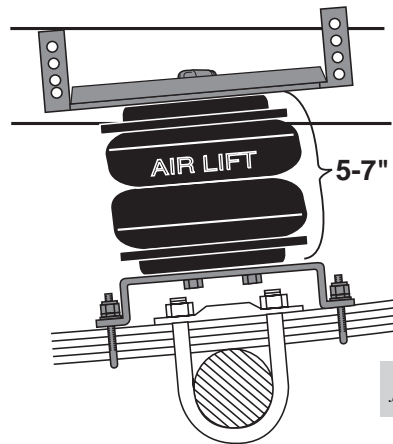

fig. 6
4. Align the assembly vertically and horizontally. The distances between points X and Y (Figs. 6 and 7) should be approximately equal, between 5 and 7 at normal ride height.